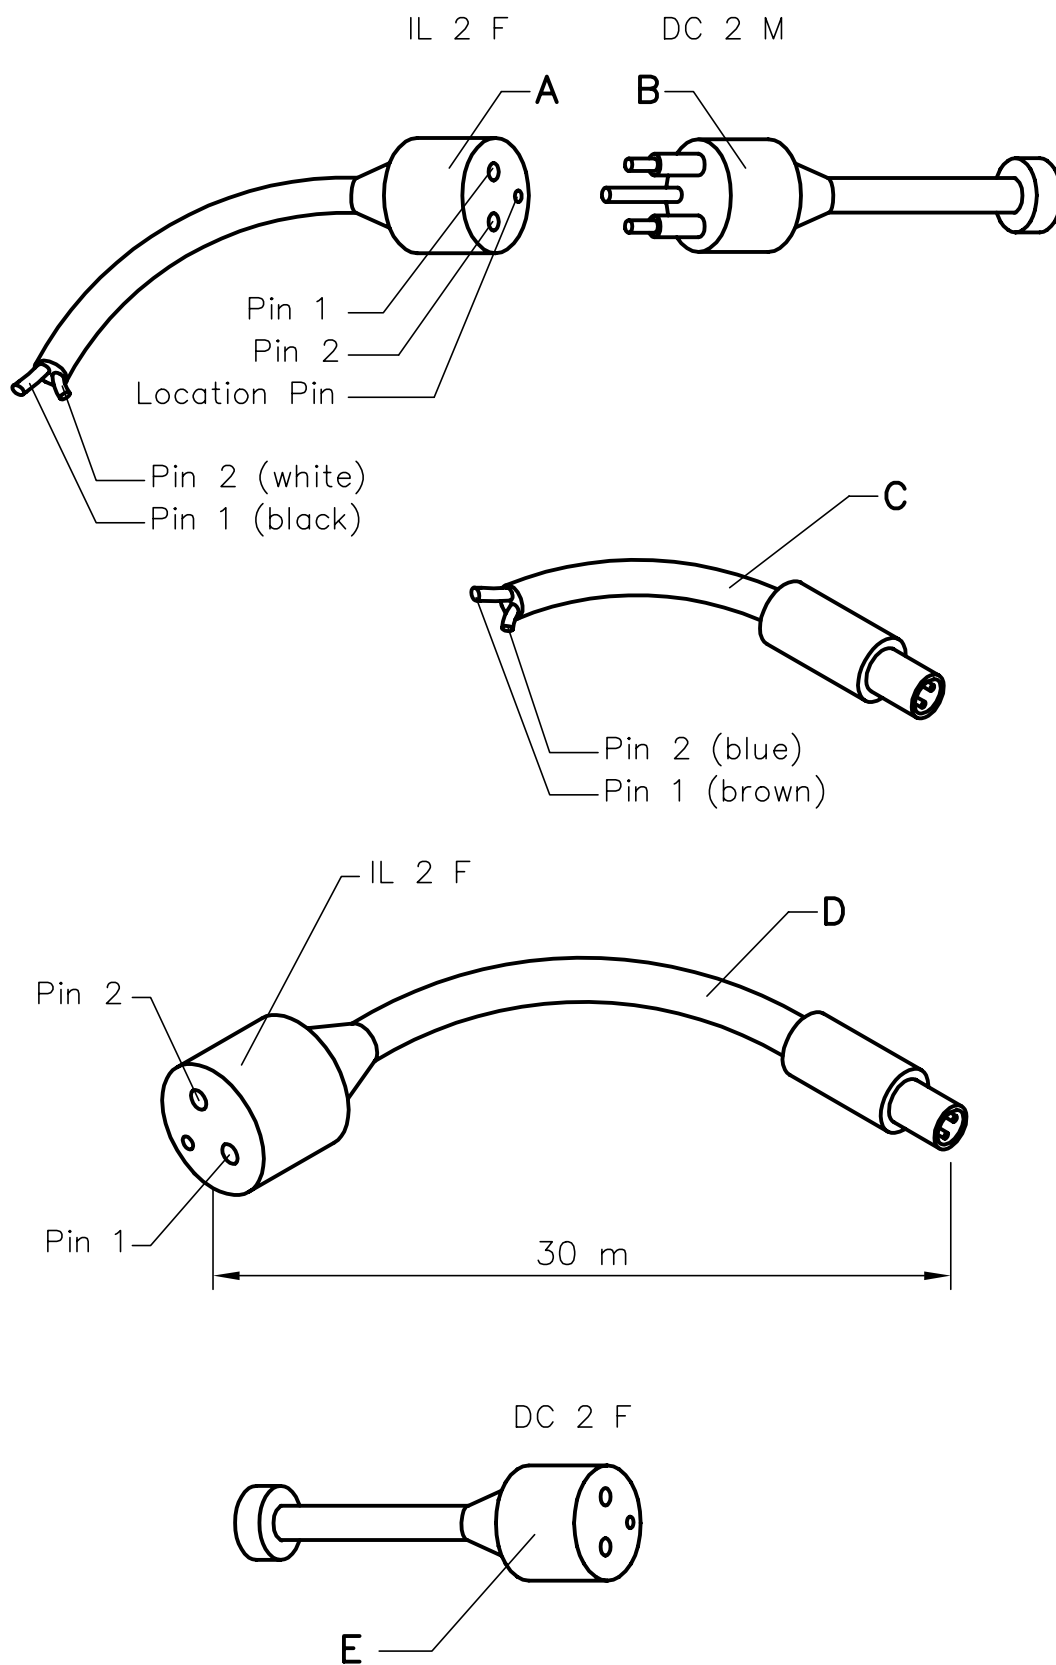
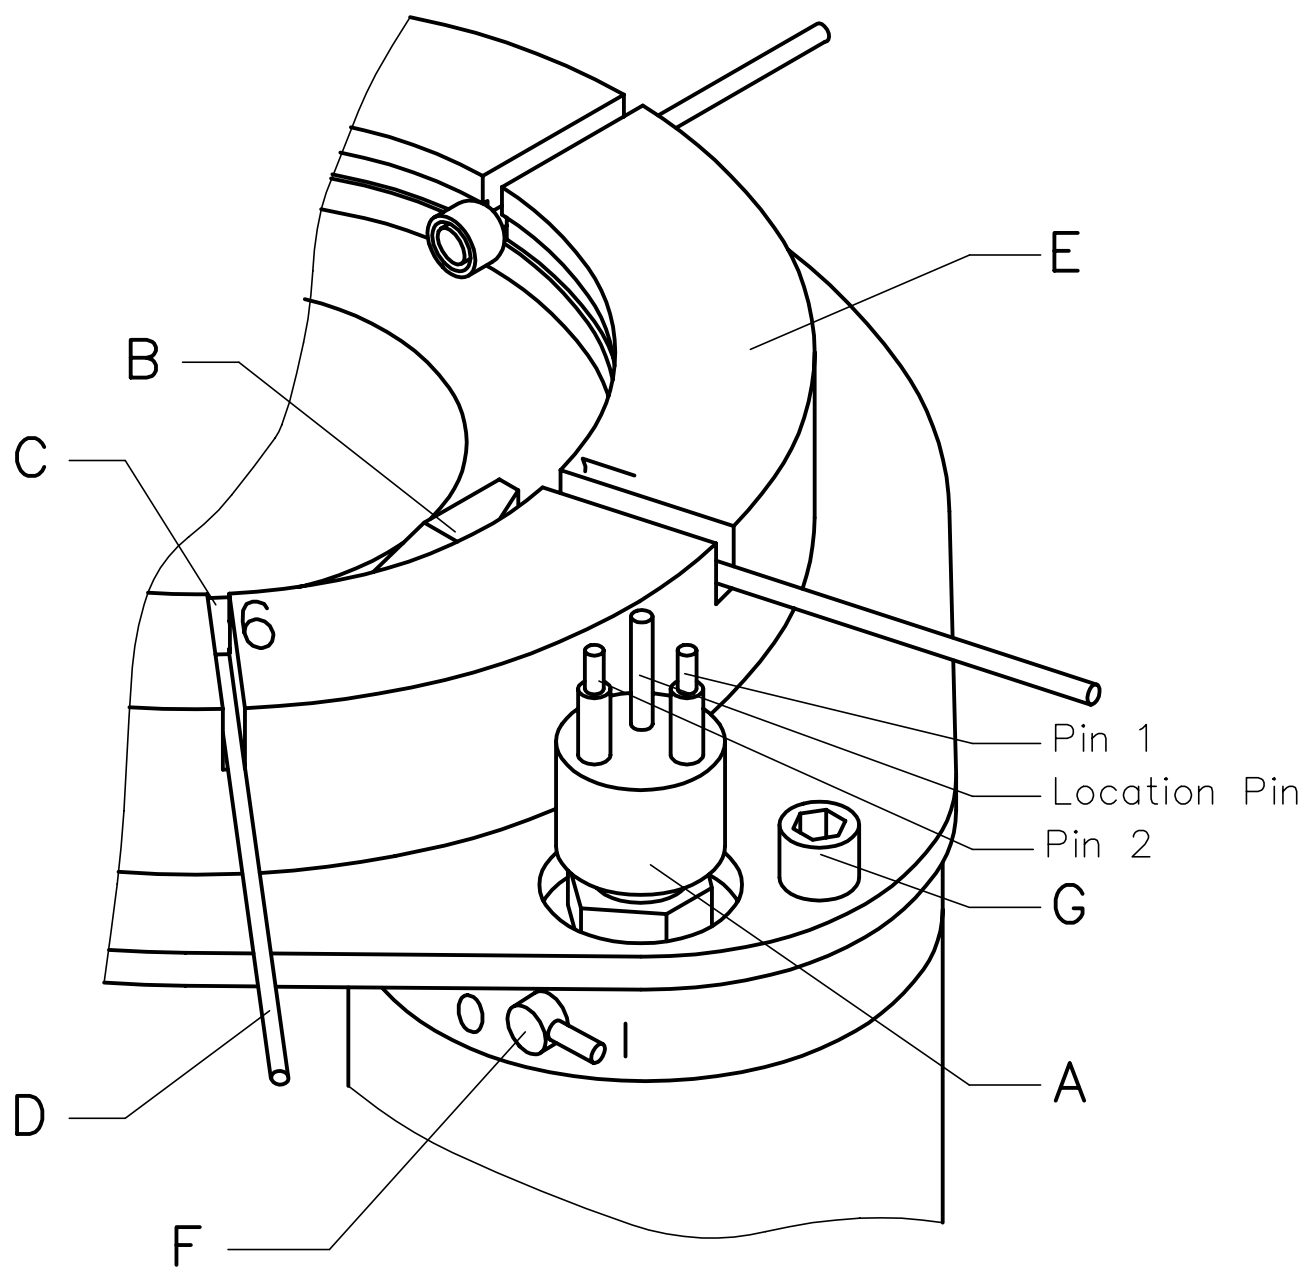
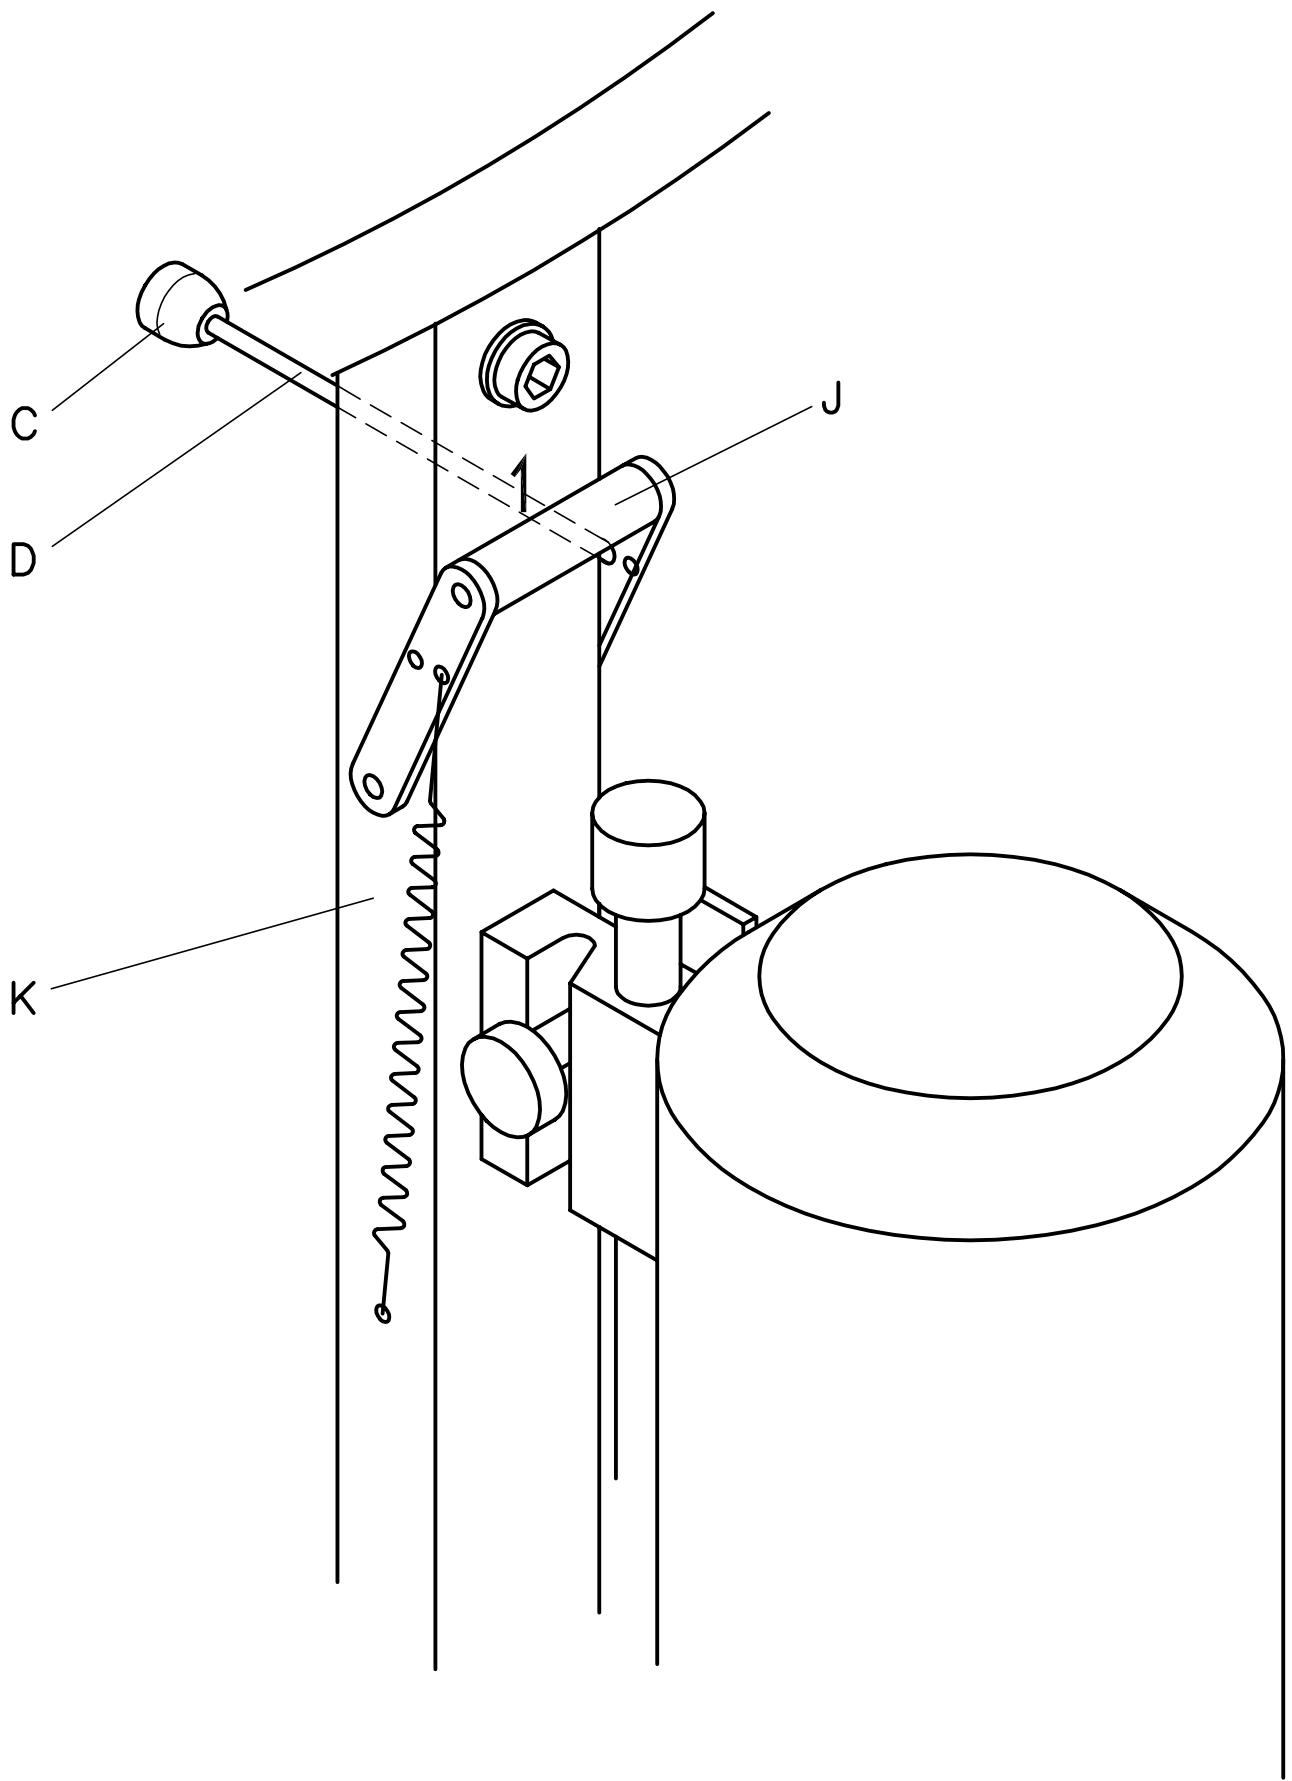

Fig. 1
Fig. 2
Fig. 3
14. Remove the Test Run Cable (Fig. 1 D).
When a **SECOND TEST RUN** of the **MULTI WATER SAMPLER MWS 12** is not intended, plug the dummy DC 2 F (Fig. 1 E) onto the connector BH 2 M (Fig. 2 A) and plug the dummy DC 2 M (Fig. 1 B) into the connector IL 2 F (Fig. 1 A) of the single or multi conductor cable. Beforehand the contacts should be slightly greased with the special Pin-lubricant.
2. The lever key of the Underwater Unit has to be switched to position **O** (Fig. 2 F).
3. Connect the connection cable from the slip ring box of the winch (Fig. 1 C) to the Deck Command Unit (Fig. 4 C).
4. Slightly grease the pins of the connector BH 2 M (Fig. 2 A) of the Underwater Unit with the PIN-lubricant.
5. Connect the single or multi conductor cable (Fig. 1 A) to the Underwater Unit (Fig. 2 A).
6. Lift the striking bar **J** of the rack no. **1** and put rope **D** with the plastic ball **C** into the corresponding slit no. **1** (Fig. 2, Fig. 3).
9. The lever key of the Underwater Unit has to be switched to position **I** (Fig. 2 F), the main screen appears at the display of the Deck Command Unit.
11. The procedure (as described in point 10.) has to be repeated another 11 times. Finally the second line of the display indicates with **UNDERWATER UNIT: END OF OPERATION** that a complete operation has been simulated. The release block (Fig. 2 B) is now again between slit no. **1** and no. **12** (Fig. 2).
12. Switch off Underwater Unit (Fig. 2 F) and Deck Command Unit (Fig. 4 B).
When an operation of the **MULTI WATER SAMPLER MWS 12** is not intended, the single or multi conductor cable has to be removed. To avoid corrosion of the contacts, plug the dummy DC 2 F (Fig. 1 E) onto the connector BH 2 M (Fig. 2 A) and plug the dummy DC 2 M (Fig. 1 B) into the connector IL 2 F (Fig. 1 A) of the single or multi conductor cable. Beforehand the contacts should be slightly greased with the special Pin-lubricant.
3. The lever key of the Underwater Unit has to be switched to position **O** (Fig. 2 F).
4. Lift the striking bar **J** of the rack no. **1** and put rope **D** with the plastic ball **C** into the corresponding slit no. **1** (Fig. 2, Fig. 3).
8. The lever key of the Underwater Unit has to be switched to position **I** (Fig. 2 F), the main screen appears at the display of the Deck Command Unit.
14. Switch off Underwater Unit (Fig. 2 F) and Deck Command Unit (Fig. 4 B) when the Underwater Unit is back on board.
When a further operation of the **MULTI WATER SAMPLER MWS 12** is not intended, the single or multi conductor cable has to be removed. To avoid corrosion of the contacts, plug the dummy DC 2 F (Fig. 1 E) onto the connector BH 2 M (Fig. 2 A) and plug the dummy DC 2 M (Fig. 1 B) into the connector IL 2 F (Fig. 1 A) of the single or multi conductor cable. Beforehand the contacts should be slightly greased with the special Pin-lubricant.
2. Unscrew 3 hexagon socket screws M 6 (Fig. 2 G). and remove the motor housing.
- b) the the red releaser is not positioned between slit no. **1** and no. **12** of the basic ring (Fig. 2 B)
1. Connect the Test Run Cable (Fig. 1 D) to the Deck Command Unit (Fig. 4 C).
2. Connect the Test Run Cable (Fig. 1 D) to the removed motor housing (Fig. 2 A).
4. The lever key of the motor housing has to be switched to **I** (Fig. 2 F), the main screen appears at the display of the Deck Command Unit (see DECK COMMAND UNIT, page 8).
11. The red releaser block is to be turned by hand until it is positioned between slit no. **1** and no. **12** of the basic ring (Fig. 2 B).
1. Check the connection between the plug SUBCONN IL 2 F (Fig. 1 A) and the single or multi conductor cable (and check the cable adapter if used).